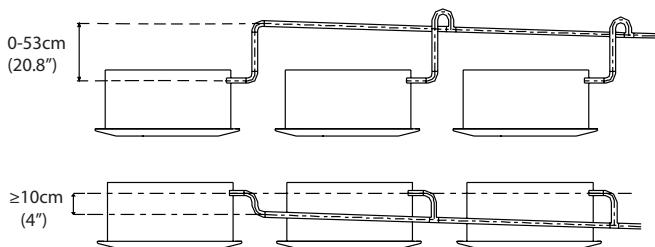

Fig. 5.4
**NOTE:** When connecting multiple drainpipes, install the pipes as shown in Fig 5.4.